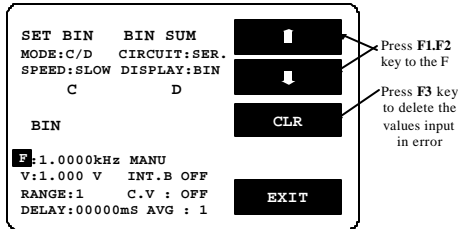

Figure 8-6
- Press  key shown as Figure 8-6 below. For further details, please refer to 4-5-2